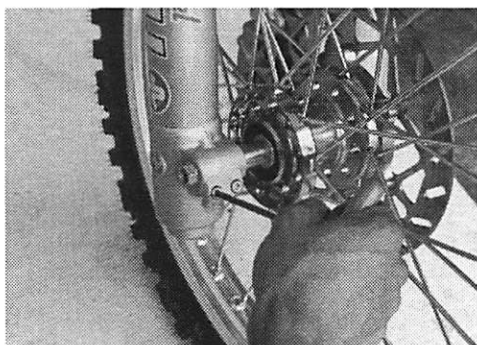

Figure 5.6
5. Loosen the 5 mm Allen head axle pinch bolts on the right fork leg. (Figure 5.6)